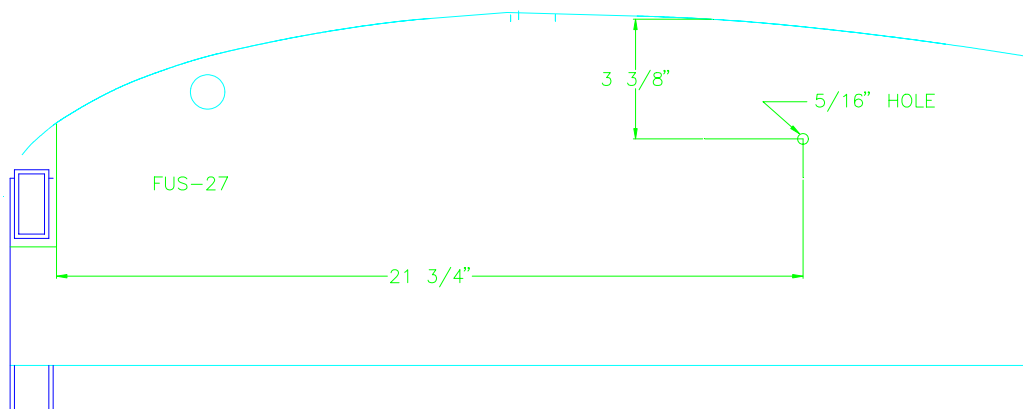

Figure 15.14.1
- 2) Measure down 3 3/8” on this line and mark for drilling. Drill a 5/16” hole. Repeat for the other side of the Cabin. Figure 15.14.1